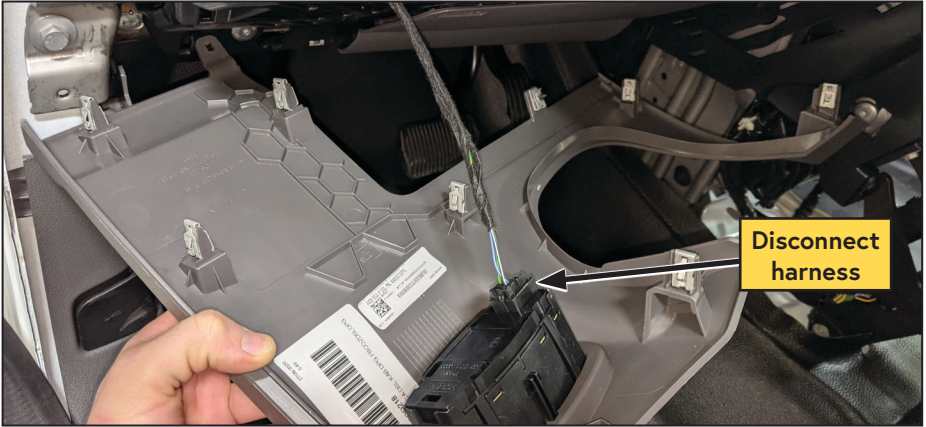

Figure 50 — Remove steering column kick panel
- Remove the kick panel below the steering column (Figure 50).
- Disconnect the harness and set the panel aside (Figure 50).